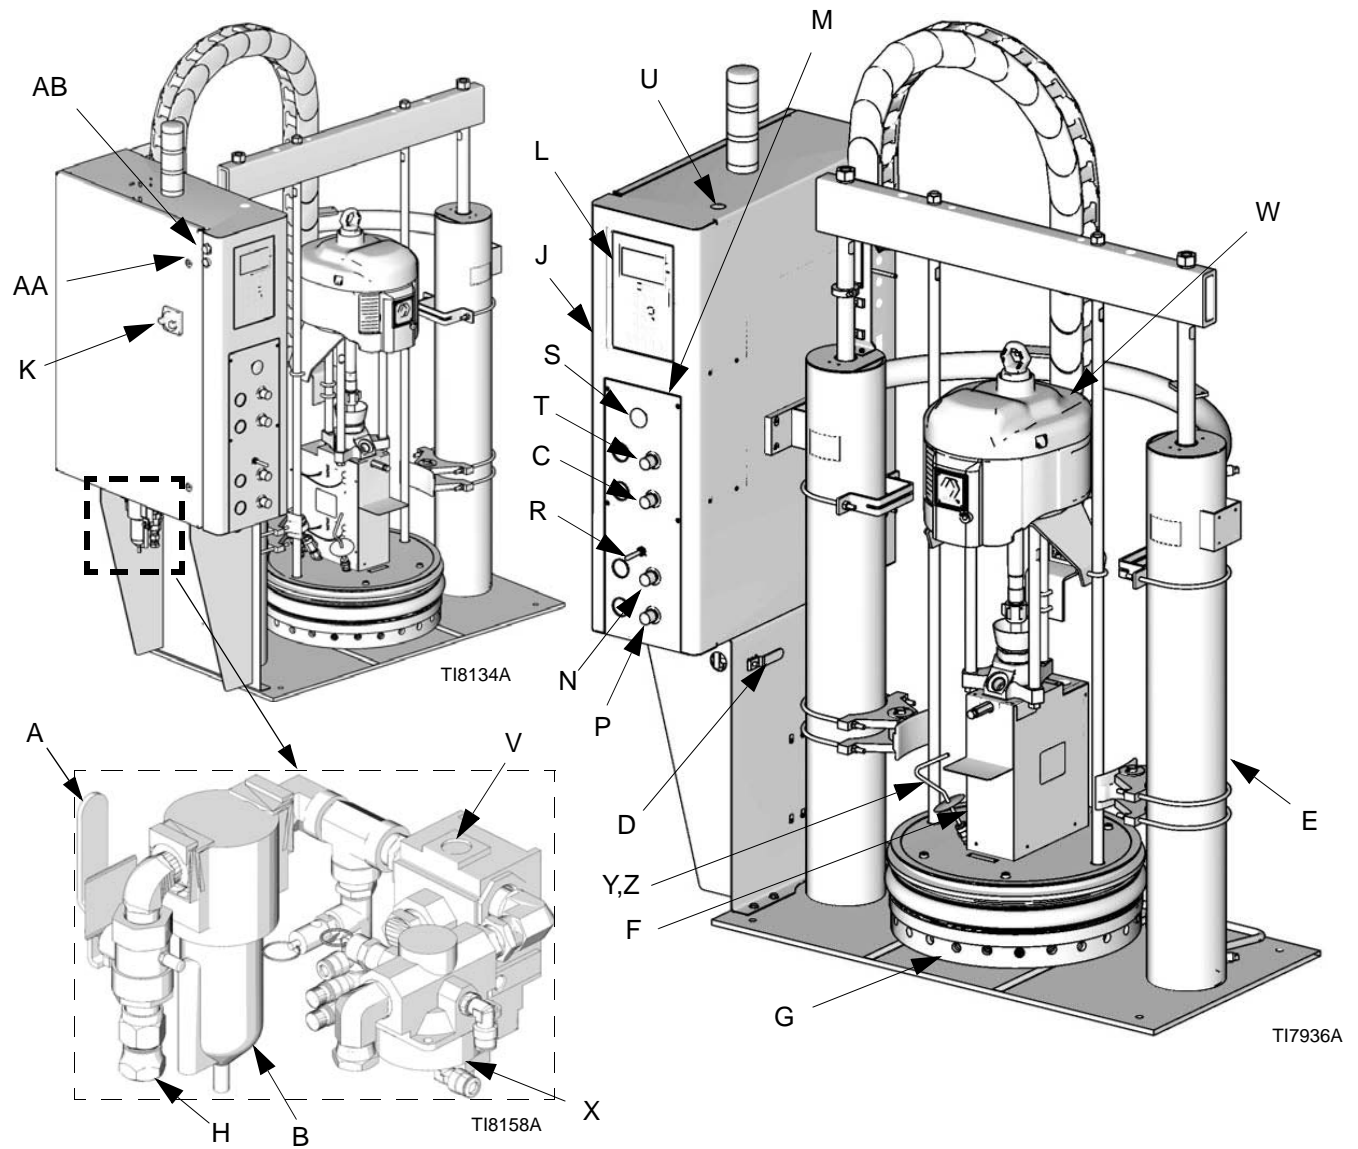

FIG. 1: Component Identification
Before installing the system you should be familiar with all the system components. See FIG. 1 for Therm-O-Flow system components.
The following components are included with the unit. See FIG. 1.
The pneumatic control panel includes the following. See FIG. 1.
For more information, refer to FIG. 1 on page 9. The following components are included with the module:
- System Master Air Valve (bleed-type) (D) is used to shut off the air supply to the entire supply unit.
- Air Motor Master Air Valve (bleed-type) (D) is supplied in your system to relieve air trapped between it and the air motor when the valve is energized (**see Warning above**). This bleed valve should be easily accessible and located downstream from the air regulator.
- Air Motor Air Regulator (C) controls the pump outlet pressure by adjusting the air pressure to the air motor. It is located on the pneumatic control panel.
- The Air Motor Enable Solenoid, see FIG. 1 page 9, letter (X) delays startup to allow material to heat thoroughly.